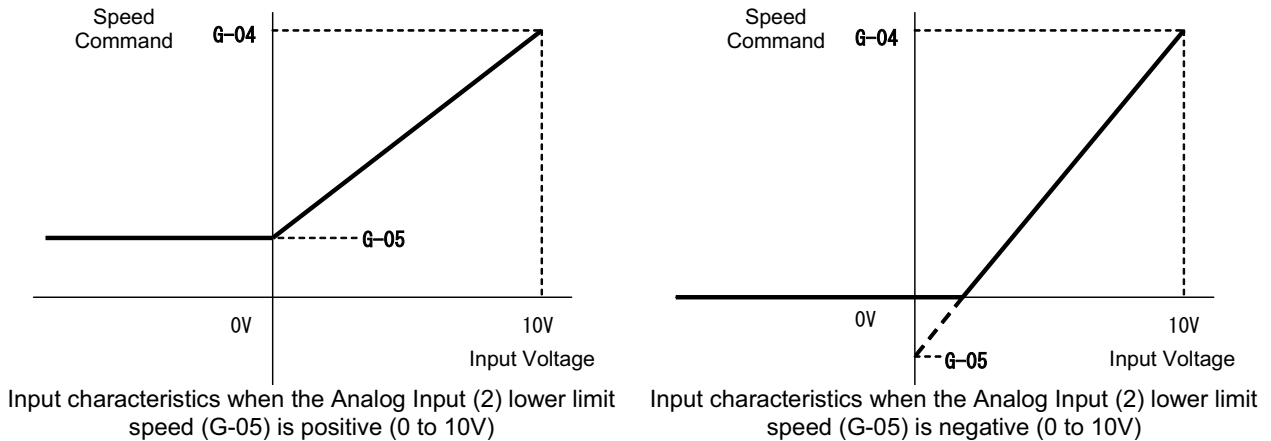

Figure 5.3 Speed command characteristics with voltage input of 0 to 10V
The speed command value is set as the Analog Input (2) lower limit speed (G-05) when the input is 0V. When the input is 10V, it is set as the Analog Input (2) upper limit speed (G-04). However, this will be set to "0" if the Analog Input (2) lower limit speed (G-05) has a negative value. (Figure 5.3) If the minimum speed (A-01) is other than "0", the speed command absolute value is controlled to prevent falling below the minimum speed. As a speed command, this only allows forward operation. For reverse operation, a reverse operation command should be used.